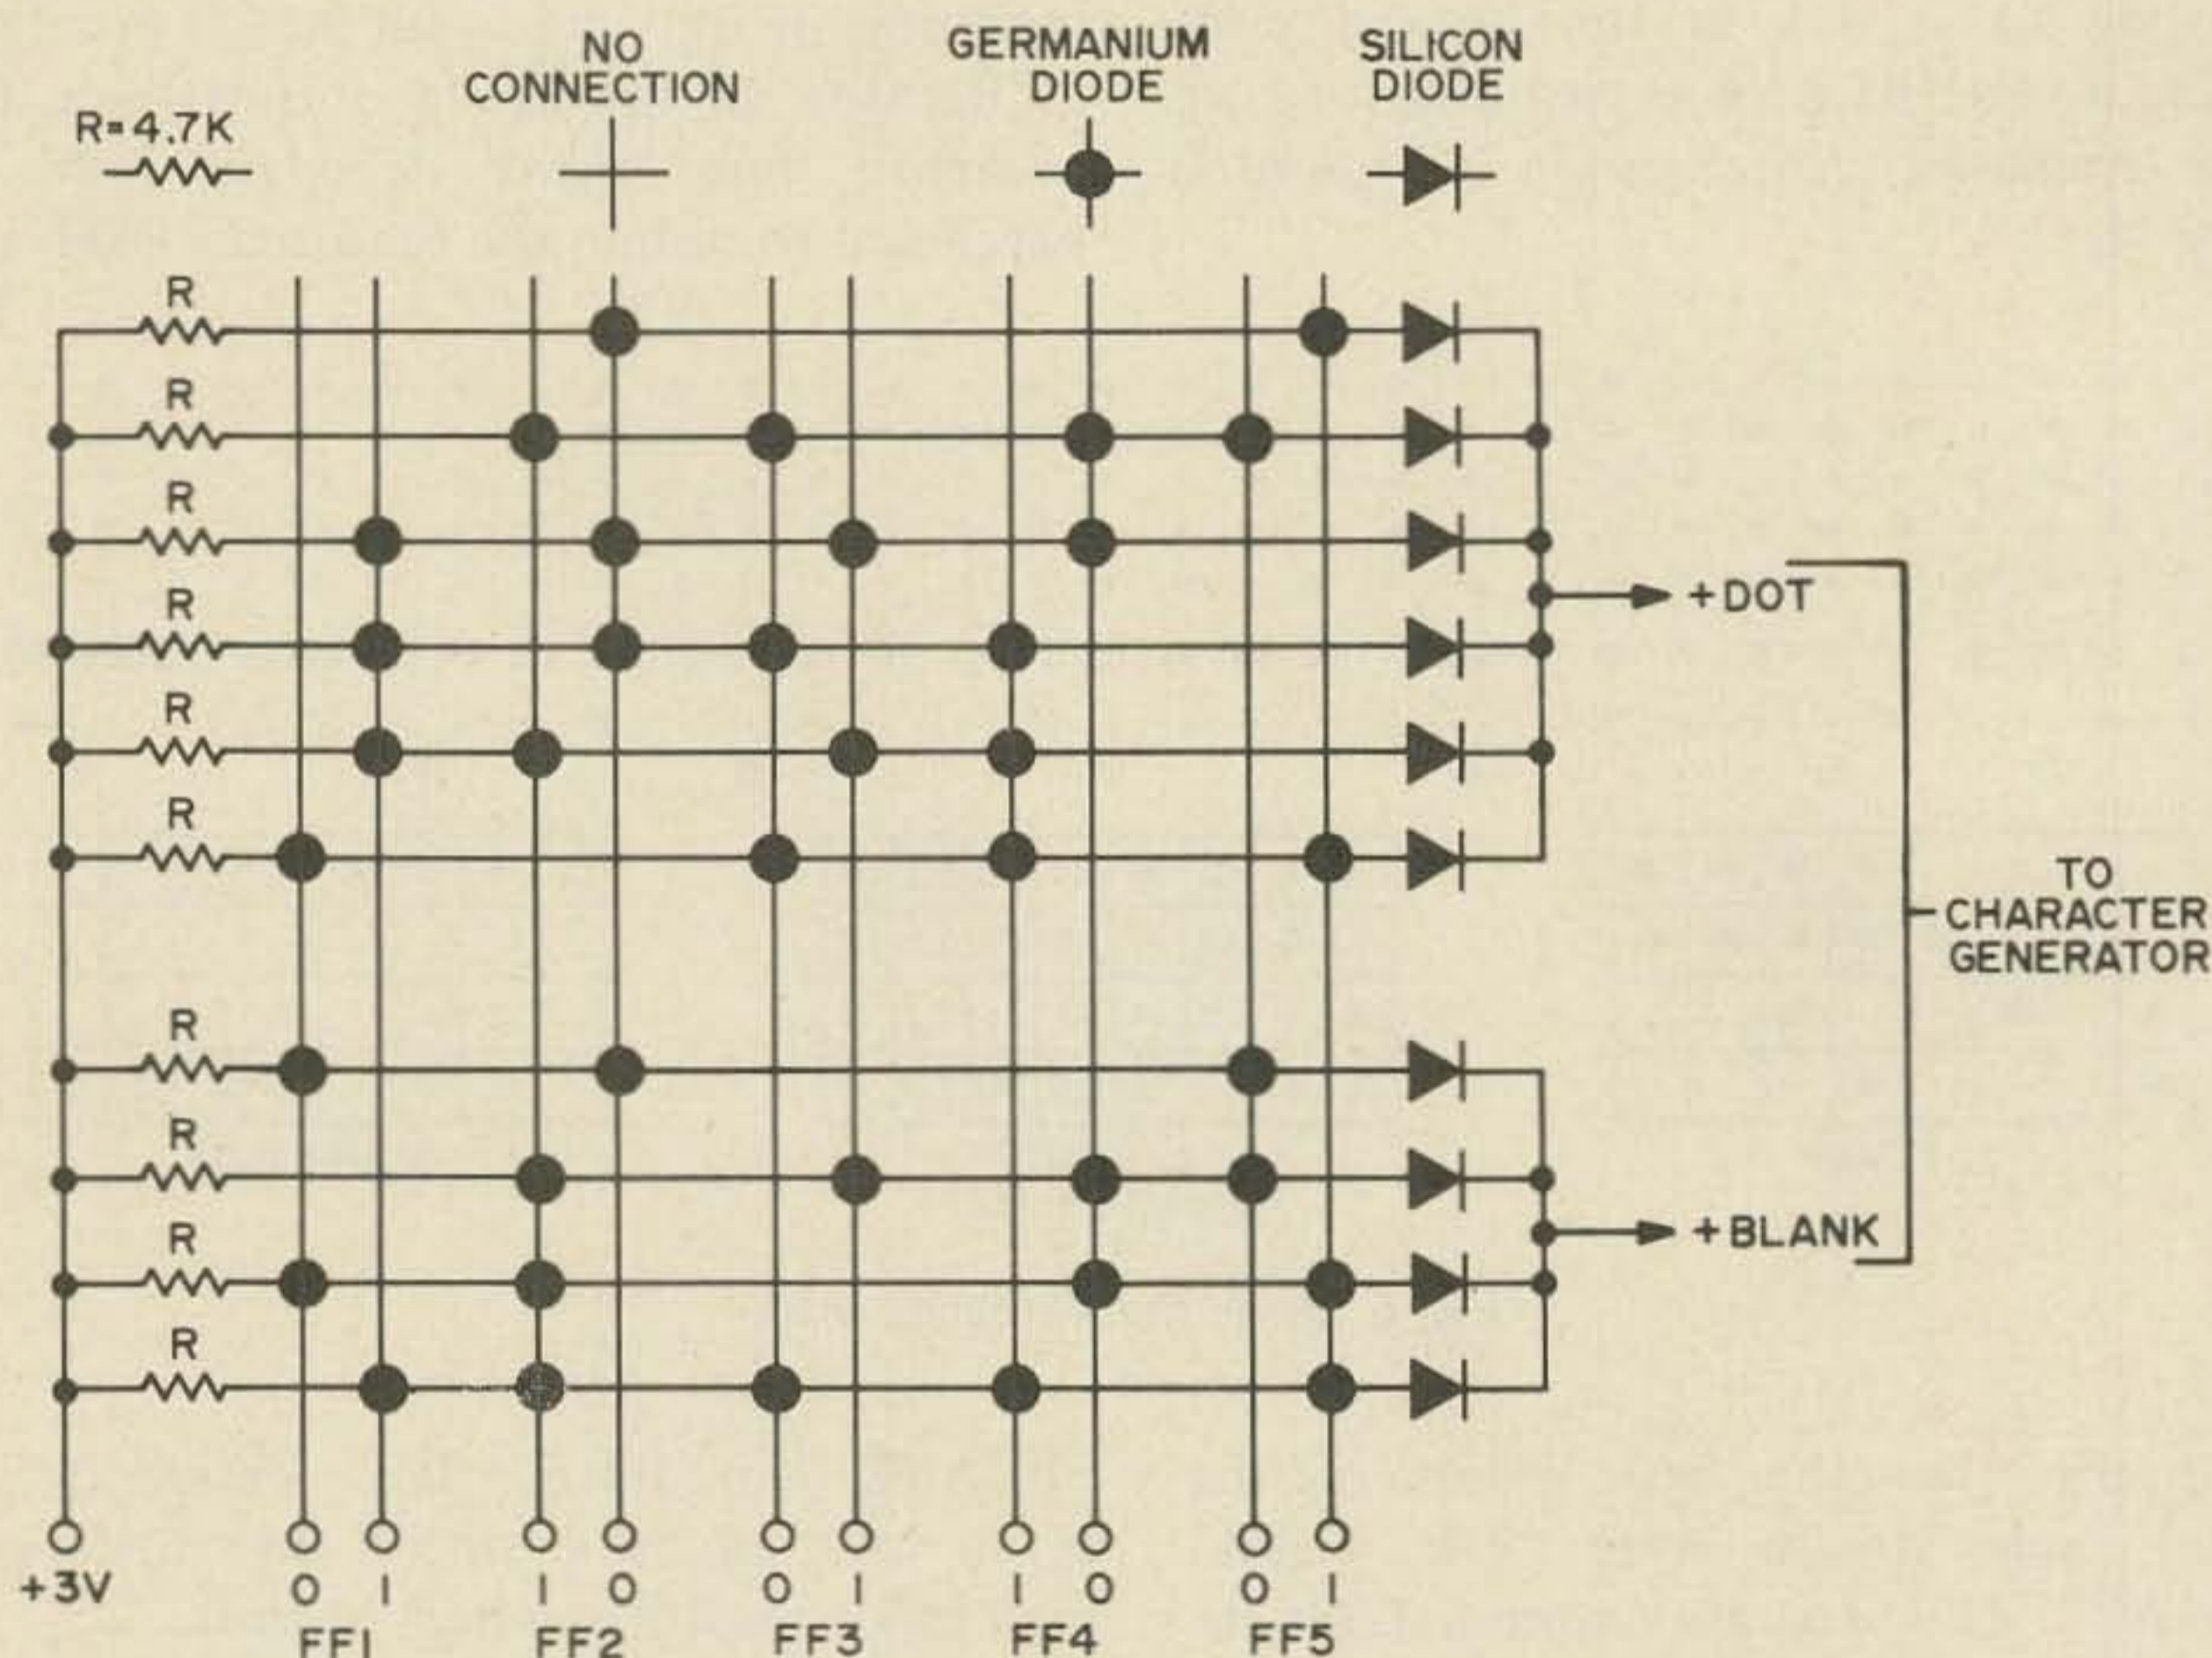
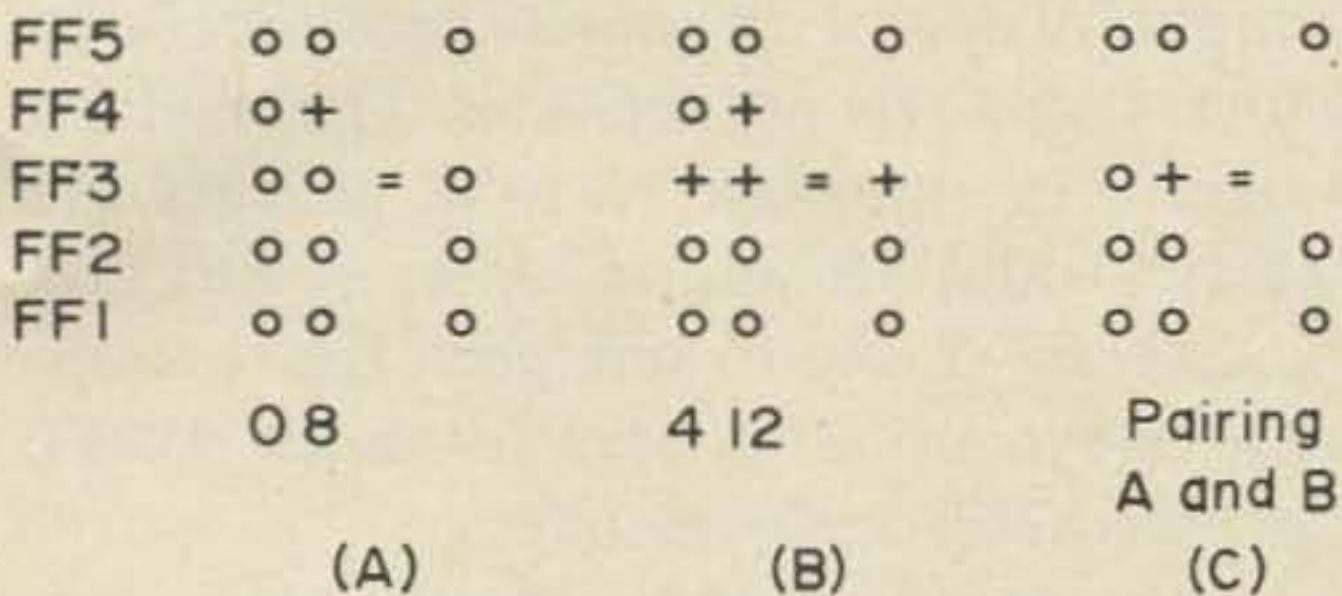

Fig. 7. Diode read-only memory matrix for "DE W7DBF."
Fig. 8. Actual reduction procedure.
Successive pairing, then pairing pairs, etc. allows a reduction from the original 144 diodes to a total of 48 diodes arranged as shown in Fig. 7. Note that in Fig. 7, the 0/1 flip-flop lines are reversed for FF2 and
is illustrated in Fig. 8. In part A, the program counter states for positions 0 and 8 are compared. They differ in exactly one FF position (FF4) as all pairs must. A single diode decoder of the type shown in Fig. 5 could get both blanks simply by neglecting to connect to FF4. It even saves one *and* diode.
Part B of Fig. 8 presents the same comparison for blank 4 and blank 12, and again they differ only in FF4. In part C, a comparison of the 0/8 with the 4/12 pairs shows that these differ only in FF3. Thus, if a three-input diode decoder of the type presented in Fig. 5 were connected to FF1 (0), FF2 (0), and FF5 (0), it would give a +BLANK for all four desired program counter states (0, 4, 8, and 12). Without this reduction, 24 diodes (six for each blank) would have been required rather than the four actually required. This diode decoder may be found in Fig. 7 as the first line in the +BLANK group.
map, and then the actual reduction is performed as in Fig. 8. It should be noted that some states will not pair at all, such as blank 27 in Fig. 6. To pick up this blank, a full five-input diode decoder is required. From Fig. 6, we see that for blank 27, the program counter is in state “++0++” and the resulting diode decoder can be found in Fig. 7 as the bottom diode line.
The rule when pairing states is that the two program counter states can differ in exactly one flip-flop position. All other positions must agree, including any omitted connections as in Fig. 8, part C. If there is disagreement in more than one FF position, then these two states do not pair.